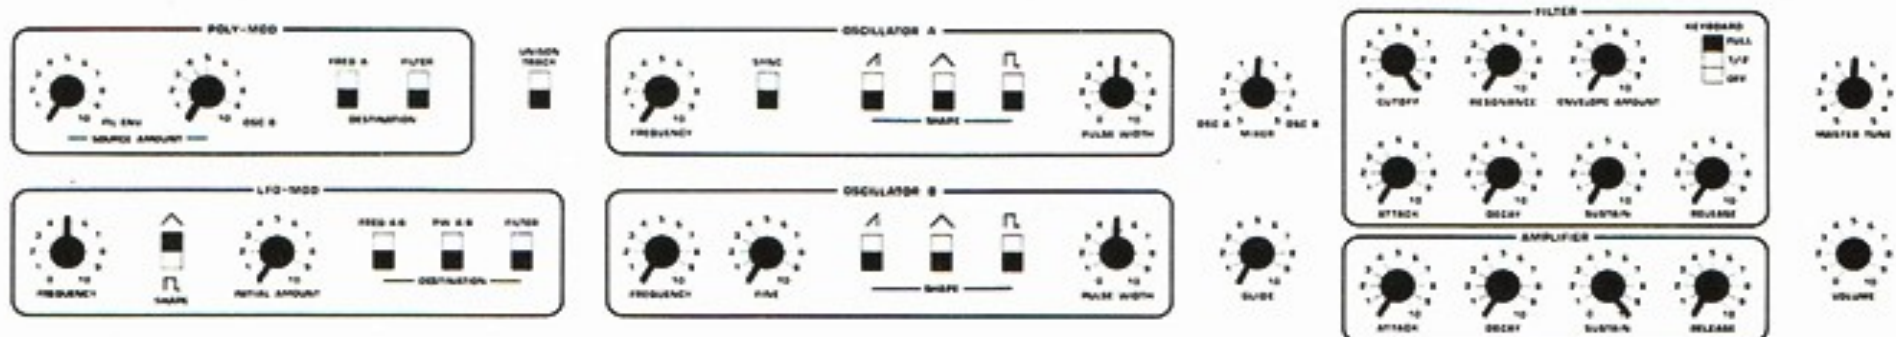

Figure 1-1
All tests begin with controls positioned as shown in Figure 1-1. The essential features of this patch are that no oscillator waveforms are switched on, the filter and amplifier are fully "open," and there is no modulation.
1. Activate TUNE. Switch PRESET off (Manual Mode) and patch according to Figure 1-1.
1. Switch **PRESET** off (Manual Mode) and patch according to Figure 1-1.
1. Switch PRESET off (Manual Mode) and patch according to Figure 1-1.
7. Check range of frequency modulation (FM) applied by POLY-MOD OSC B.